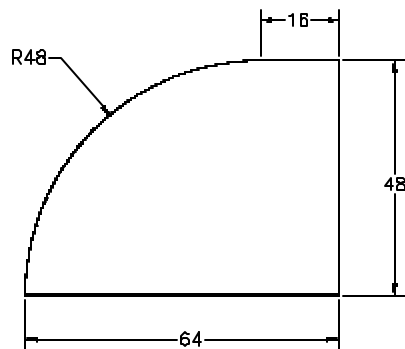

Figure 24-45 Figure showing the region
13. Draw the object shown in Figure 24-45 and then convert it into a region.